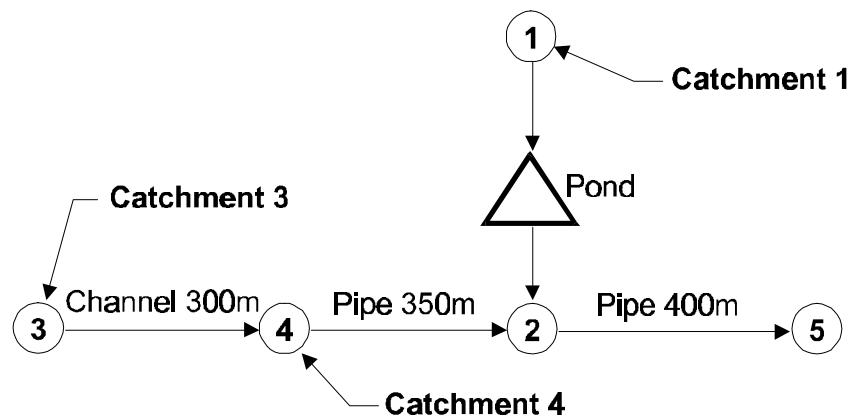

Figure 11-1 – A four-link drainage network
Figure 11.1 shows a network comprising 5 nodes and 4 links. Link #3 is intended to be an open channel, links #4 and #2 are to be pipes and link #1 is to be a detention storage pond. The sub-catchments which generate overland flow enter the system at nodes (1), (3) and (4) and have the characteristics summarized in Table 11.1.
Catchment data for the network of Figure 11.1